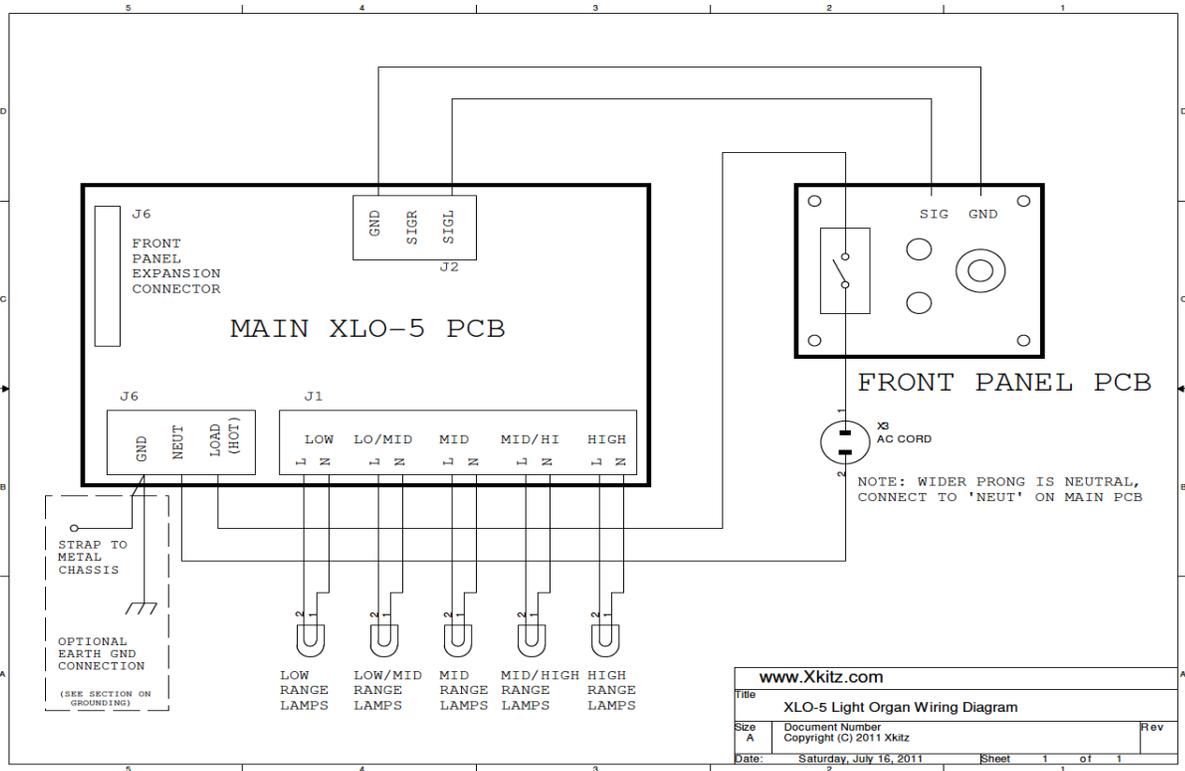

Figure 5. Wiring Diagram
Now that you have assembled both the main and front panel circuit boards, you're ready to mount them into your enclosure and connect the system level wiring. Refer to Figure 5 on page 11 for the system level wiring diagram. This diagram shows how the PCBs are wired together, as well as the wiring of the AC power cord, and the lamp circuits. Follow these steps to complete your enclosure wiring:
6. Earth Grounding: If you plan to use a metal enclosure you should ground the enclosure by electrically tying it to the GND terminal on terminal block J6. You should also upgrade to a 3 conductor power cord and tie its ground wire to the metal enclosure as well. See Figure 5.
7. Connect each of your lamp circuits to the terminal block marked J1 as shown in Figure 5.
Double check your wiring to make sure it matches the diagram in Figure 5. Now its time to power up your light organ for the first time. **This is a very critical step.** This is when any un-detected assembly errors, such as backward diodes or electrolytic caps, could lead to very bad consequences. So use eye protection and stand clear of the main circuit board when you switch it on for the first time in case anything explodes. Be ready to unplug it again quickly if necessary.